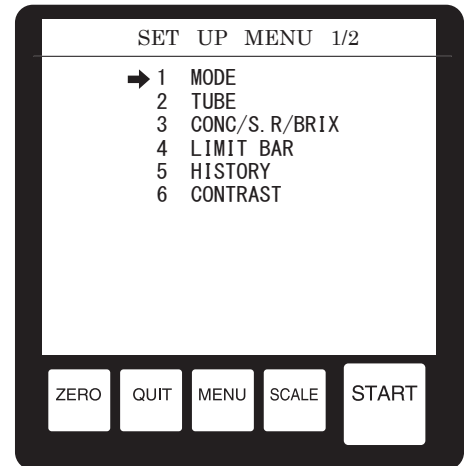

Fig.10-3
(4) Selecting type of a tube
- a) Press the MENU key when a measurement value screen or the ZERO SET END screen is on the display panel. The screen shown in Fig.10-3 will be displayed on the display panel.